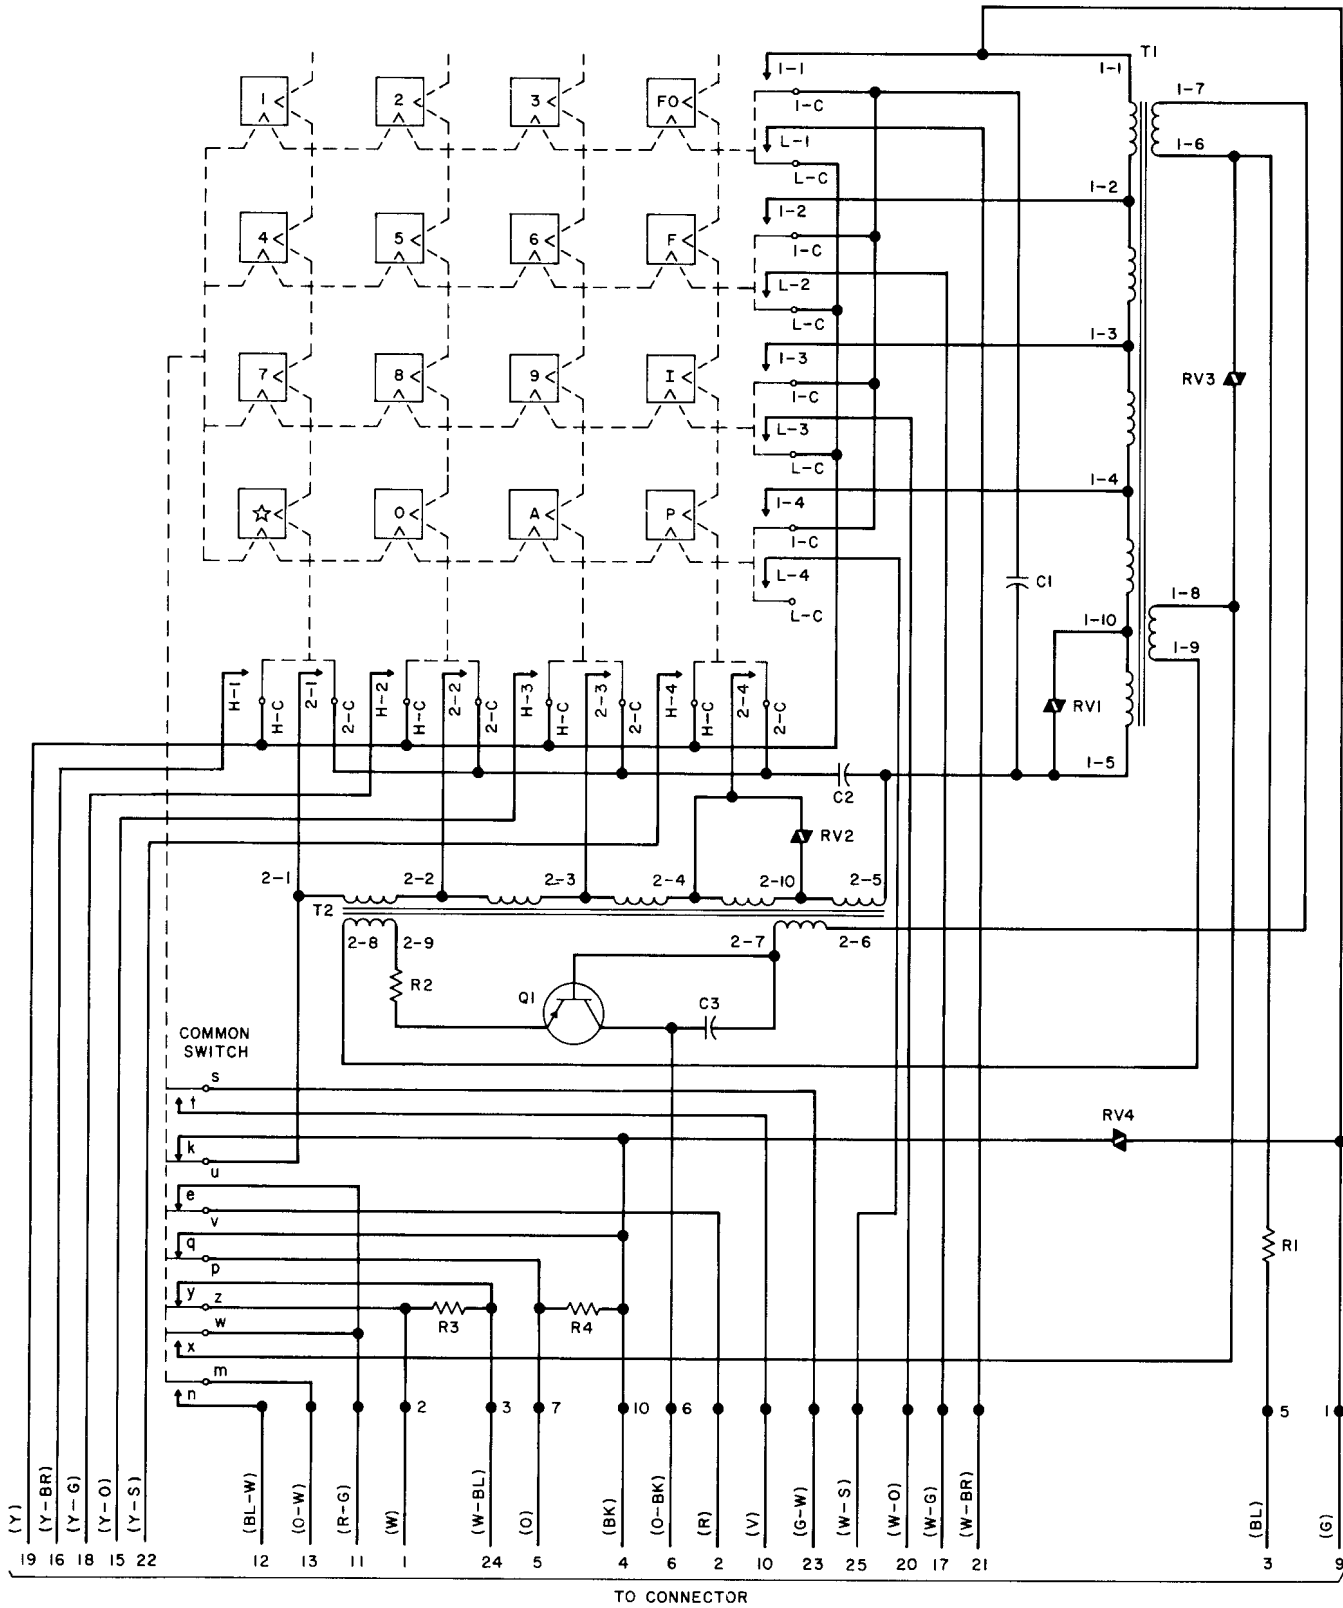

Fig. 12 — 66C3A Dial — Wiring Schematic
- Fig. 12 — 66C3A Dial — Wiring Schematic